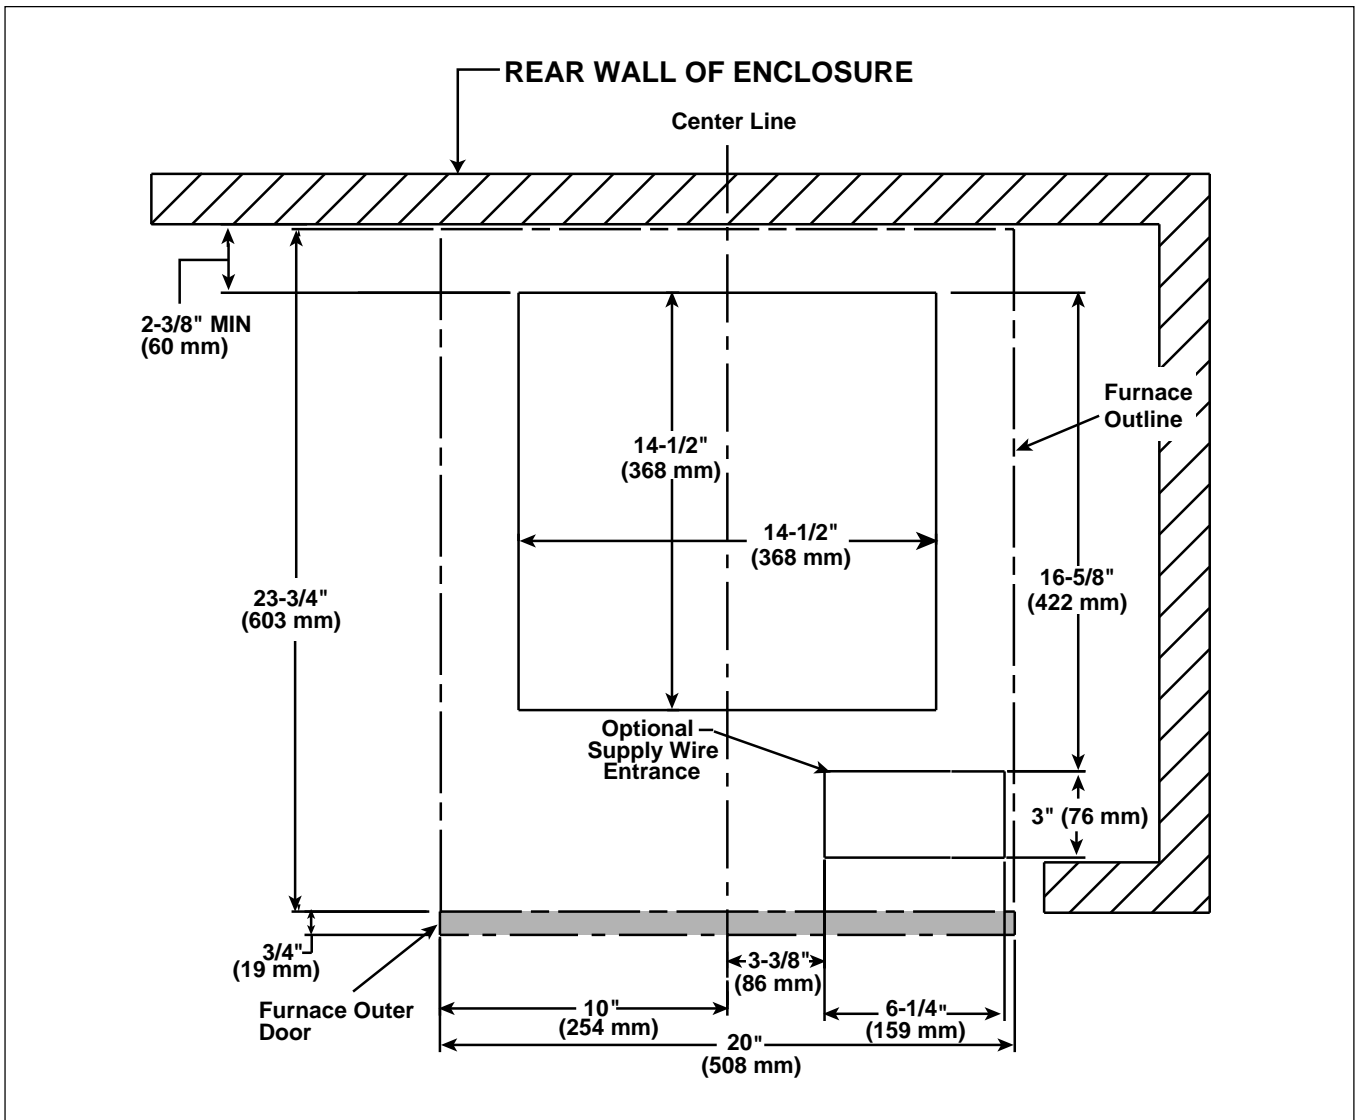

Figure 1. Downflow Floor Cutout Locations (nominal dimensions)
1. Disregard the refrigerant line opening (see Figure 1 of this addendum).